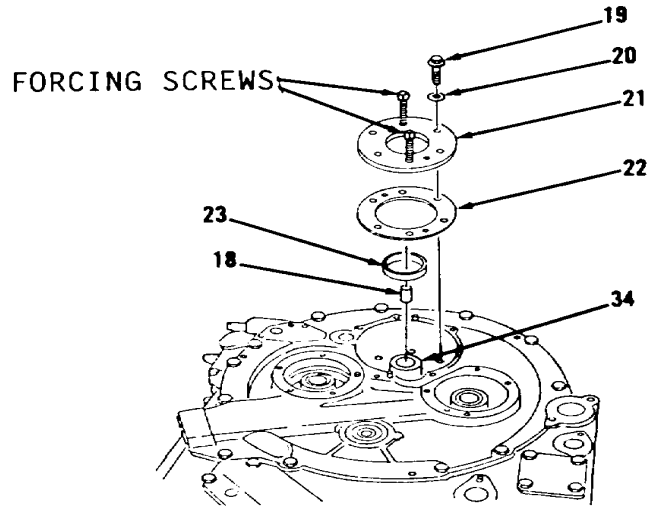

Figure 14-5.
16. Remove guide (18) from gear (34, Figure 14-5).
17. Remove six bolts (19) and washers (20) from bearing cage (21).
18. Install two 3/8-16NC forcing screws in bearing cage (21).